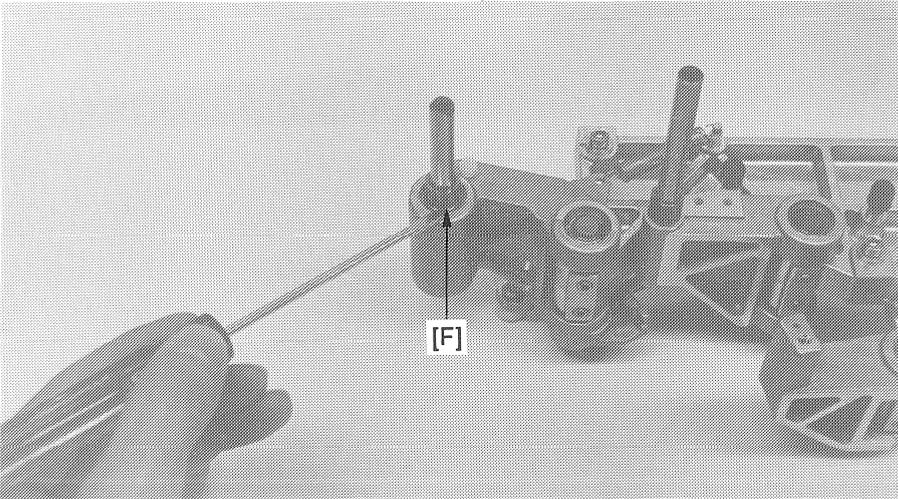

Fig. 49
10. When the correct roller height has been found, install the shims under the shaft collars [F] (Fig. 49).